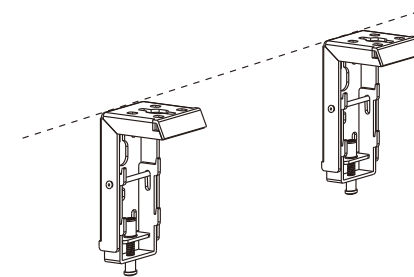

Figure 1
- 2.Mount the brackets onto the surface, ensuring it is level (tip: draw an erasable level line when mounting the brackets). See below for picture description (figure 1):